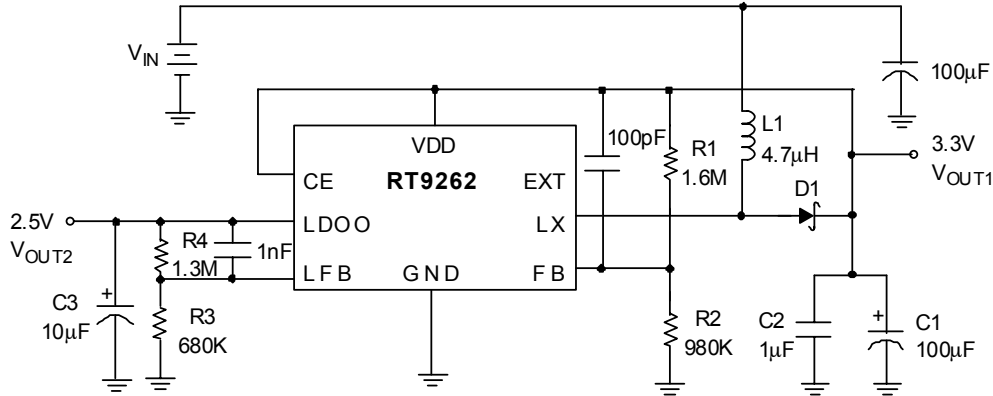
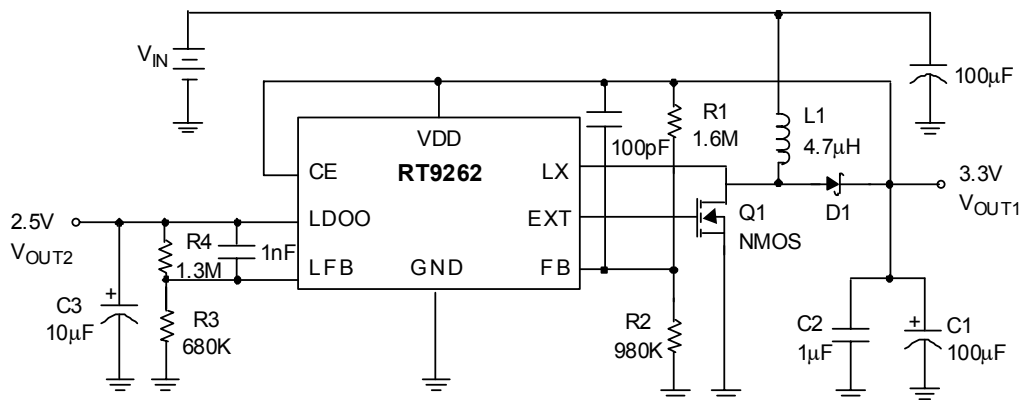
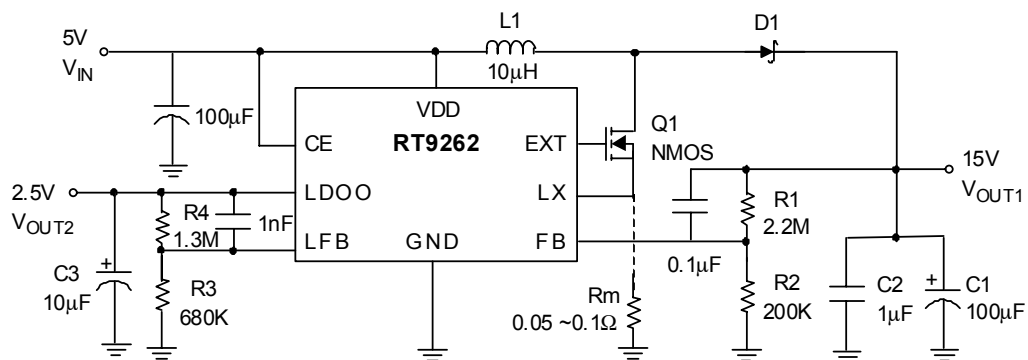

Fig. 1 RT9262 Typical Application for Portable Instruments below 400mA
Fig. 4 0.4A ~ 2A Output Current Application
Fig. 5 High Voltage Application (R_m should be added when $I_L > 100mA$)
Referring to application circuits Fig.1 to Fig.5, the output voltage of the switching regulator (V_{OUT1}) can be set with Eq.1.
Referring to application circuits Fig.1 to Fig.5, The selection of R1, R2, R3, and R4 based on the trade-off between quiescent current consumption and interference immunity is stated below:
- A proper value of feed forward capacitor parallel with R1 (or R4) on Fig.1 to Fig.5 can improve the noise immunity of the feedback loops, especially in an improper layout. An empirical suggestion is around $100pF \sim 1nF$ for feedback resistors of $M\Omega$, and $10nF \sim 0.1\mu F$ for feedback resistors of tens to hundreds $K\Omega$.
- The following diagram is an example of 2-layer board layout for application circuits Fig.1 to Fig.4.